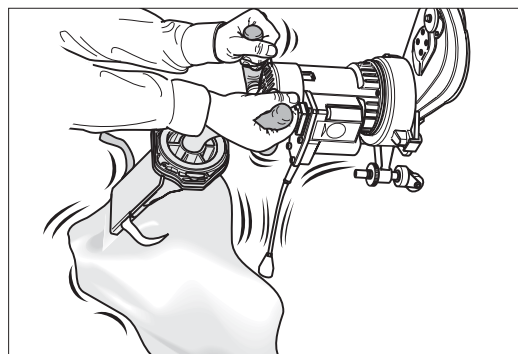

Fig. 14 Shake the dust residue into the dust bag.
- 4 Before emptying, shake the dust residue into the dust bag (Fig. 14).